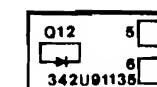

Fig. 3-62 A15 LED PC Board Parts Layout 26
3. A15 LED (Fig. 3-62, **26**)